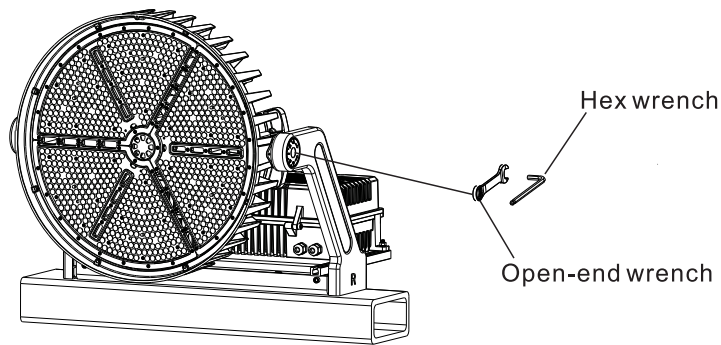

Figure 5
4. Use a open-end wrench and hex wrench to loosen the adjustment screw used to adjust the angle (Fig. 5)